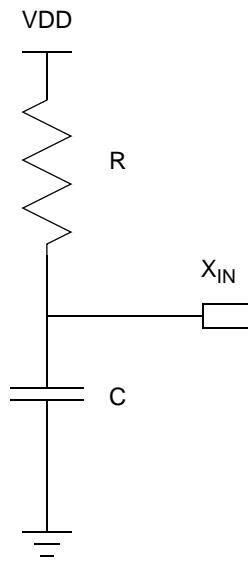

Figure 27. Connecting the On-Chip Oscillator to an External RC Network
Figure 27 illustrates a recommended configuration for connection with an external resistor-capacitor (RC) network.